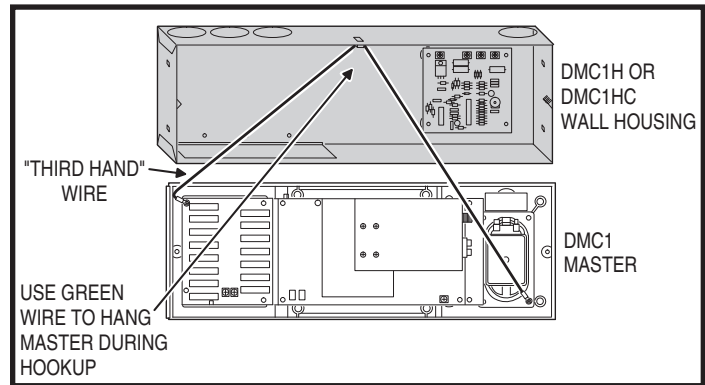

Figure 14. "Third Hand" Hanging Wire
1. Suspend the Master Station unit from the wall housing by looping the third hand wire (the thick green wire) into the hook at the top of the wall housing (see Figure 14).